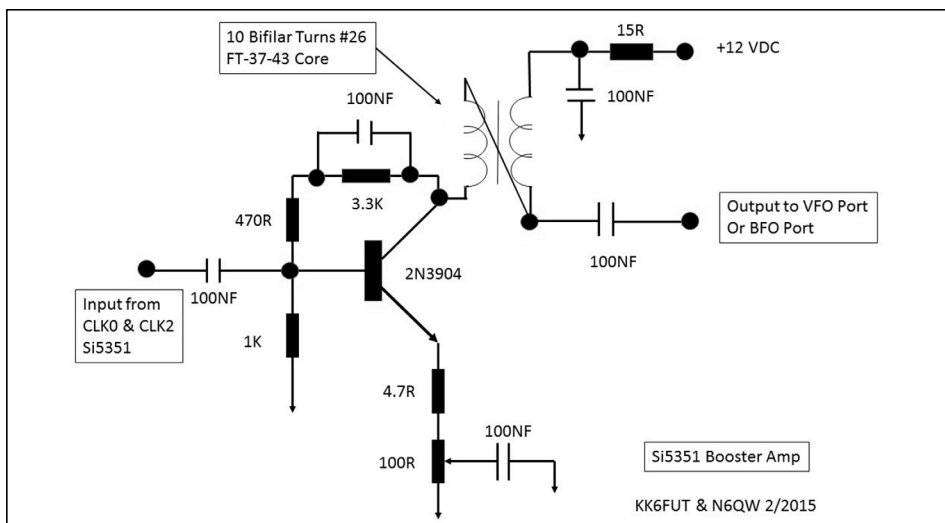

Figure 3—Si5351 Booster Amplifier stage.
1.414 volts peak-to-peak for the VFO. There is insufficient voltage coming directly from CLK2 (lower frequency) to drive the product detector and DBM directly, especially for the unbalancing of the DBM during tune up. So, we have added another identical booster amplifier following the Si5351. This feeds into the Product Detector/Balanced Modulator to bring that level to 7 dBm. Figure 3 is the Si5351 Booster amplifier. Just to keep score, the same amplifier is used in three places. Two amplifiers are used for the Si5351 outputs and the third amplifier is the optional receiver pre-amplifier stage. So once you’ve figured out how to build one, you just need to build two others.